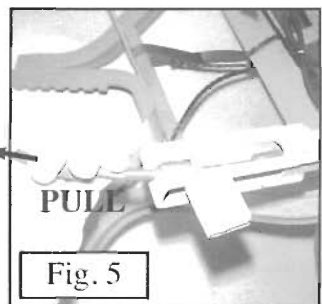

Fig. 5
C. Pull the cable towards the back of the tree and "seat" one of the cable stops against the back of the bracket, as shown in **Figure 5**.